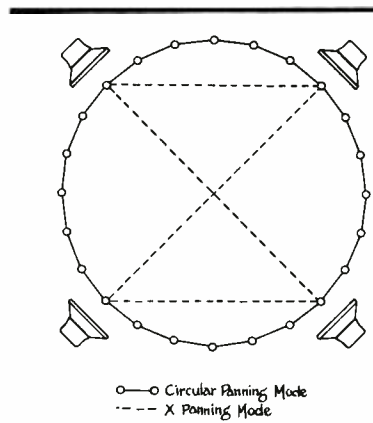

Fig 5- Panning Modes of 4212 Position Encoder
SQ encoding is further complicated by the introduction of the so called "position encoder" or the "pan pot module," Model 4212. The Position Encoder may be used for panning around the 360° field in 24 segments (15° increments), or an (X)-pan switch permits diagonal or left-right front/left-right rear pans. The Position Encoder nominally consists of eight pan pots, and may be expanded in sets of eight. In order to encode a sound inside the 360° circle, other than on a diagonal between speakers, at least two of the pan pots must be used; the relative signal level and position setting of each panner may then be used for locating the sound. See Figure 5. While the 4212 provides a means for achieving a quad mix from a stereo mixing console, it is primarily required for any quad panning where optimum SQ encoding is desired. Its output, because it is phase shifted, will not usually provide optimum positioning for discrete four track tapes [27].